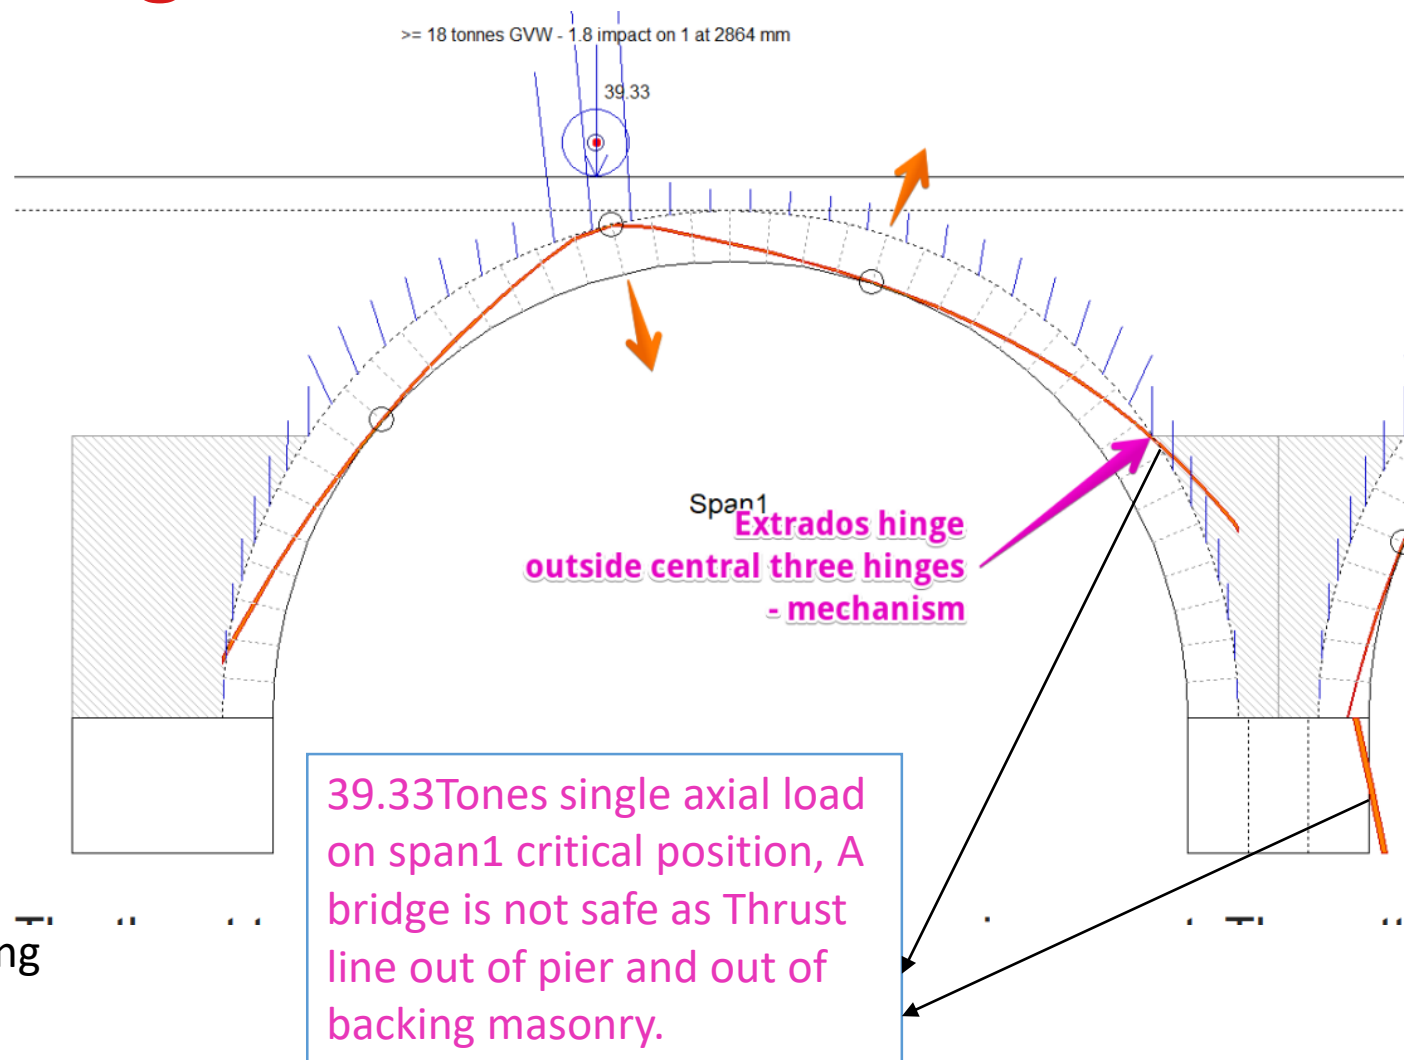

Figure 2:
- Figure 2 and 3: The thrust touches the extrados, so a hinge is present. The pattern of 4 hinges alternating between intrados and extrados forms a mechanism, so this structure might collapse, and would at least deform unacceptably (passive pressure from the full could stop full collapse; also bear in mind that we are applying a live load factor).